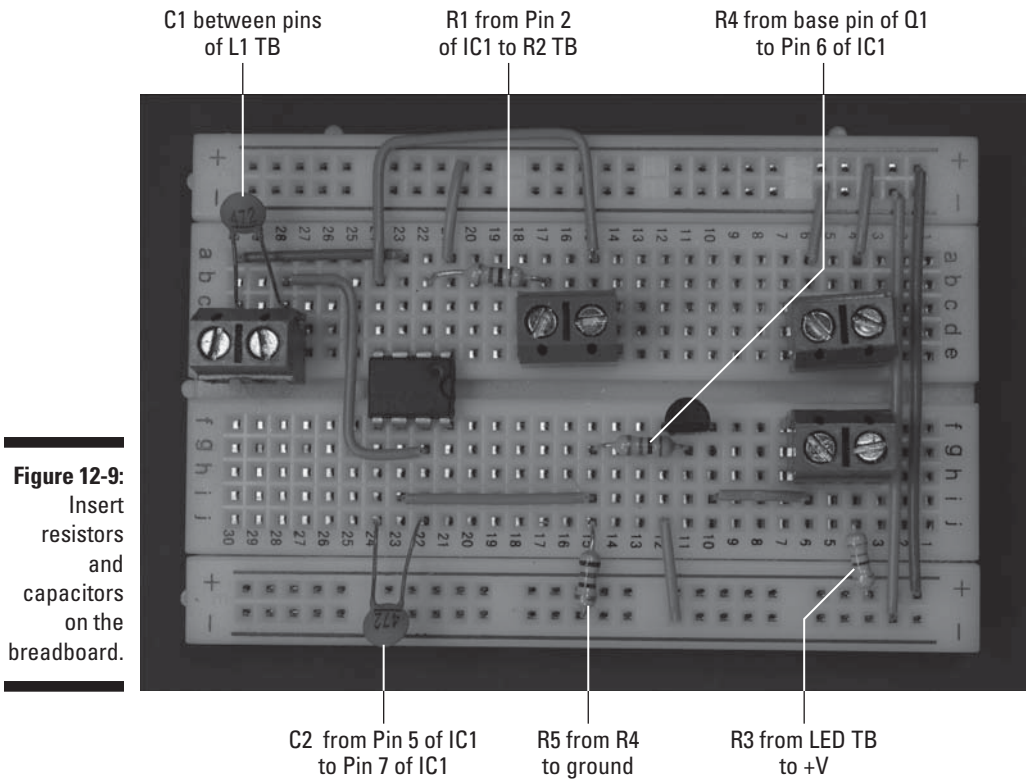

Figure 12-9: Insert resistors and capacitors on the breadboard.
5. Insert two 0.0047 microfarad capacitors (C1 and C2), two 247 ohm resistors (R3 and R5), one 1 kohm resistor (R1), and one 120 ohm resistor (R5) on the breadboard, as shown in Figure 12-9.